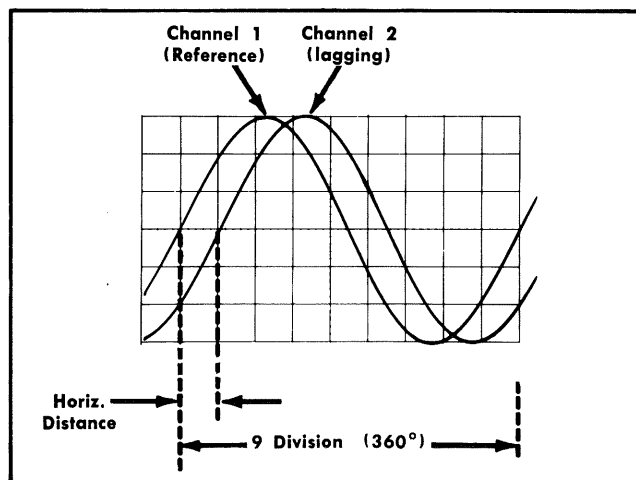

Fig. 2-4. Measuring phase shift.
5. Turn the Variable time/division control counterclockwise until 1 cycle of the reference signal (Channel 1 signal) occupies exactly 9 divisions horizontally. Each division of the graticule represents 40° of the cycle ($360^\circ \div 9 \text{ divisions} = 40^\circ/\text{division}$). See Fig. 2-4).
For example, with a horizontal distance of 1.1 divisions as shown in Fig. 2-4, the phase difference would be: